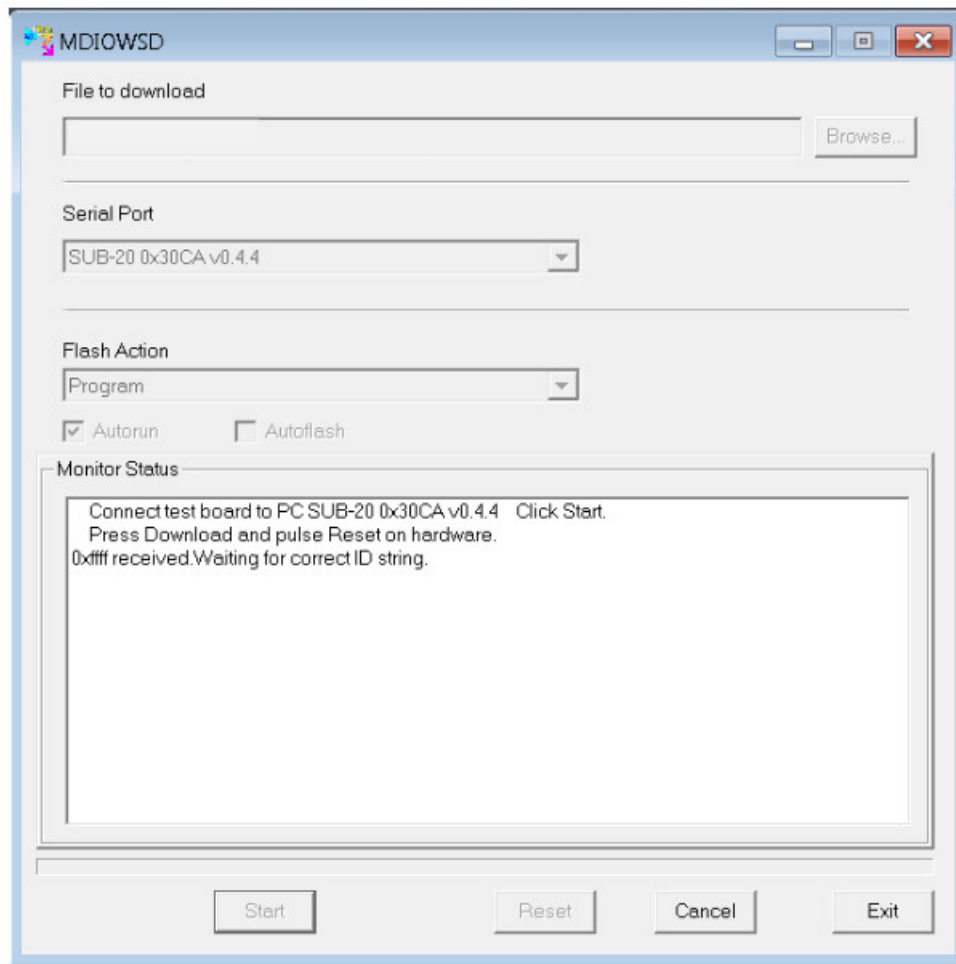

Figure 19. MDIOWSD GUI
5. Connect the USB cable from the PC to the SUB-20 board and run C:\ADuCM420...\SoftwareTools\MDIOWSD\MDIOWSD.exe. The GUI window then opens, as shown in Figure 19.
6. Click the Browse button (see Figure 19), and navigate to the desired code to download.